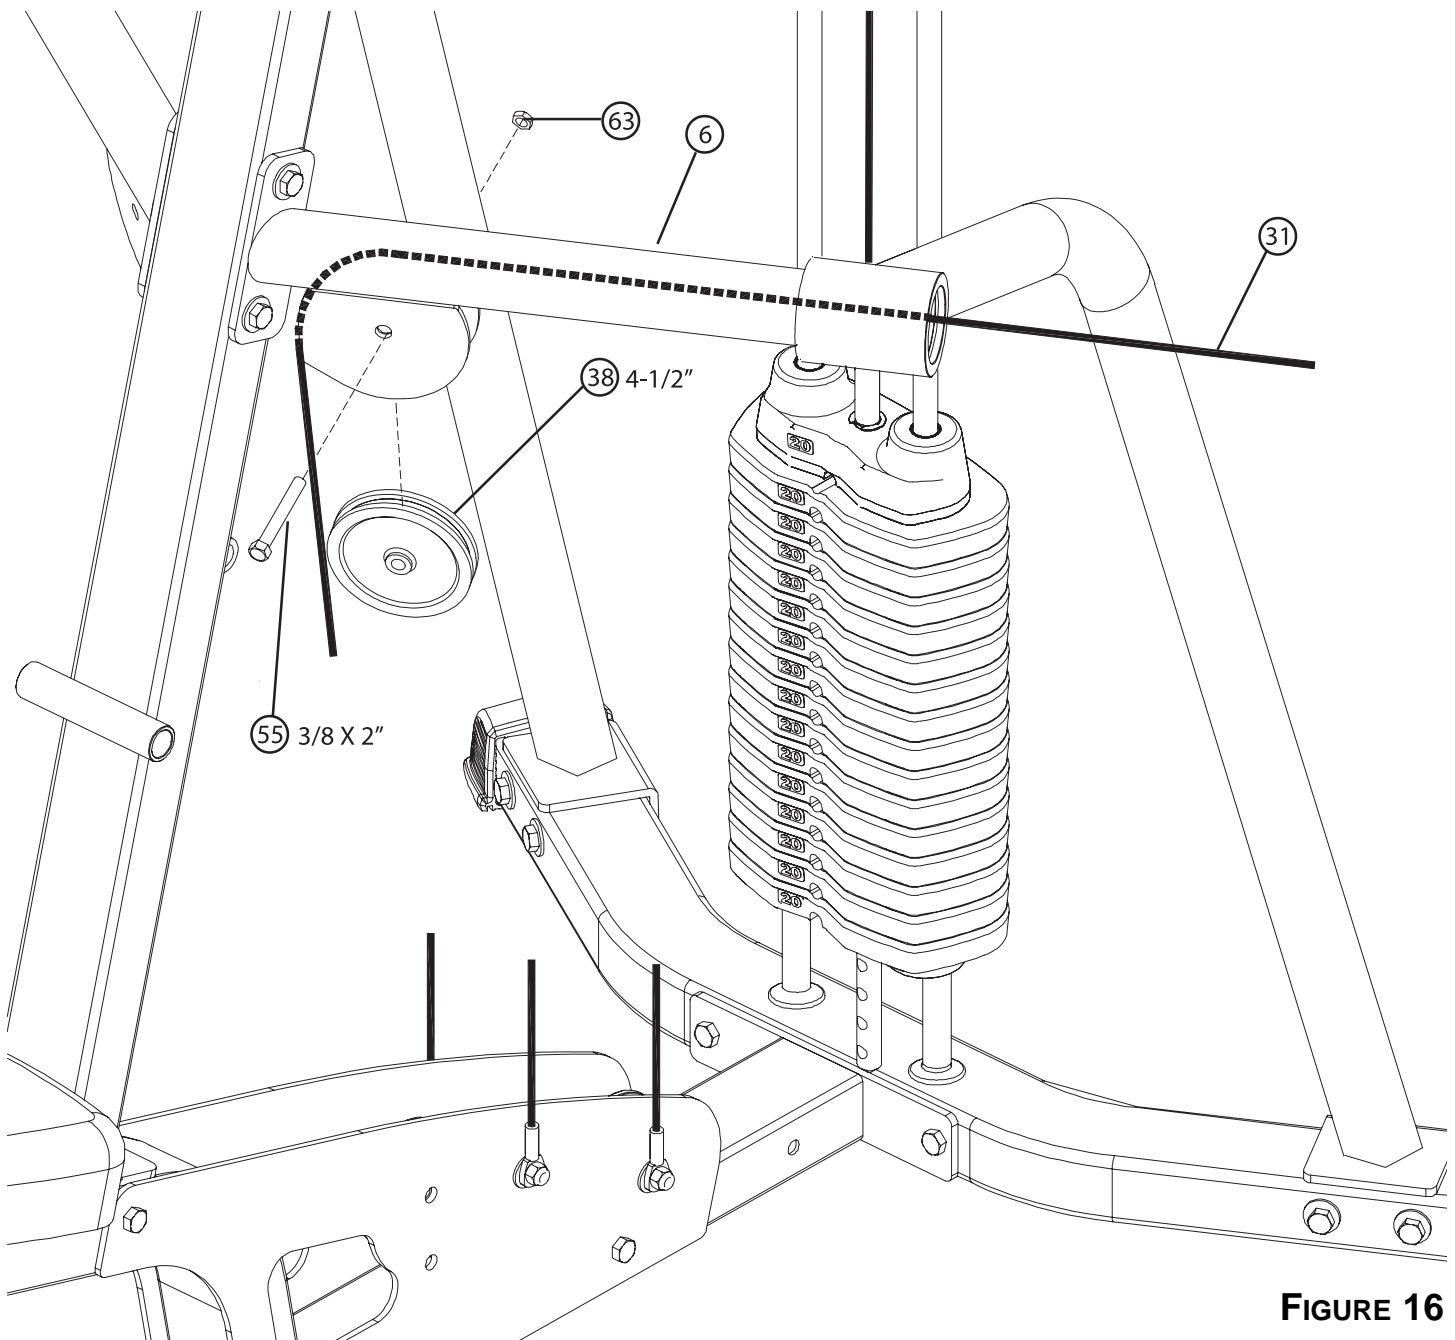

FIGURE 16
- Route the ARM CABLE (31) through the LEFT ARM (6) as shown in Figure 16.
- Loop the ARM CABLE (31) around one 4-1/2" PULLEY (38).
- Securely assemble the 4-1/2" PULLEY (38) with the ARM CABLE (31) around it to the LEFT ARM (6), using one 3/8 x 2" BOLT (55) and one 3/8" SILVER LOCK NUT (63).